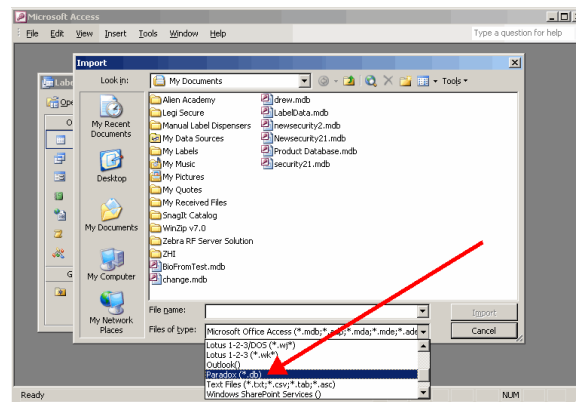

Figure 36
41. Browse to the database files you located in Steps 4 and 5, and choose the Paradox (\*.db) option in the File of type box. (Figure 36)